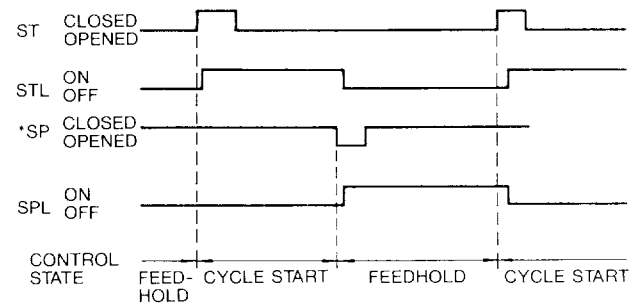

Fig. 18.1
(2) When the following state is entered after cycle start, the control completes operation control, and turns off the STL output.
(3) When the feedhold input contact "*SP" is opened during automatic operation, the automatically controlled motions, etc. are interrupted, and, at the same time the cycle start output STL is turned off and the feedhold output SPL is turned on. While a block of thread cutting instruction is being executed, the feedhold input is neglected, unless the control is equipped with Thread Interruption function.
(4) When the feedhold input contact *SP is closed, and cycle start input contact ST is closed, temporary stop SPL is turned off, and automatic operation is restarted. The cycle start output STL is turned on also.
Timing chart for input of cycle start (ST), feedhold (*SP), and cycle start (STL) and temporary stop (SPL) is shown in Fig. 18.1.